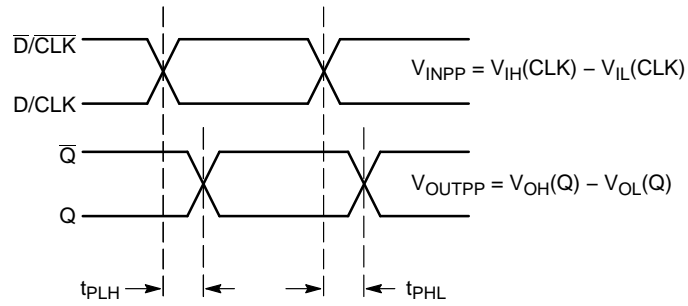

Figure 10. AC Reference Measurement
22. See Figure 10. $t_{SKEW} = |t_{PLH} - t_{PHL}|$ for a nominal 50% Differential Clock Input Waveform.